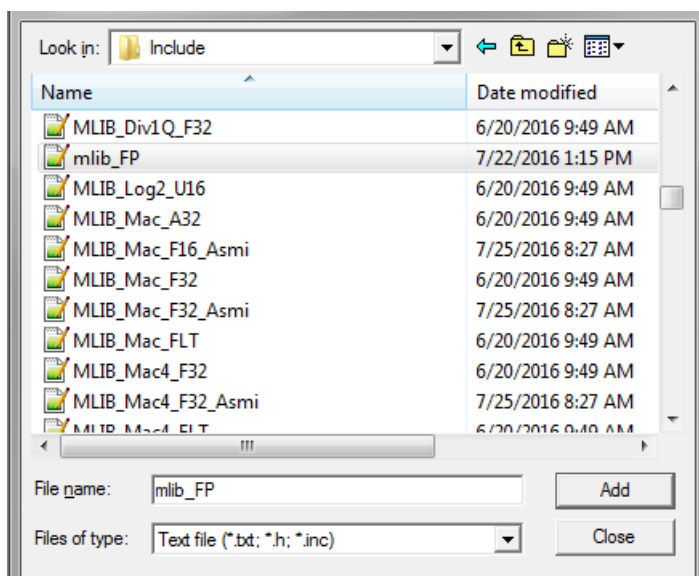

Figure 1-29. Adding .h files dialog
4. Navigate into the library installation folder C:\NXP\RTCESL\CM7F_RTCESL_4.5_KEIL\MLIB\Include, and select the *mllib_FP.h* file. If the file does not appear, set the Files of type filter to Text file. Click Add. See Figure 1-29.